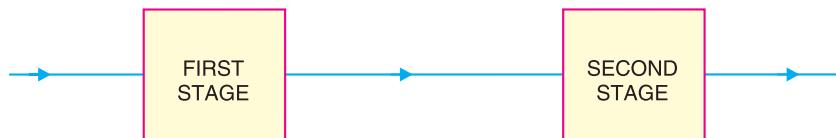

Fig. 13.24
**(i) Current amplification without voltage gain.** We know that an emitter follower is a current amplifier that has no voltage gain ( $A_v \approx 1$ ). There are many instances (especially in digital electronics) where an increase in current is required but no increase in voltage is needed. In such a situation, an emitter follower can be used. For example, consider the two stage amplifier circuit as shown in Fig. 13.24. Suppose this 2-stage amplifier has the desired voltage gain but current gain of this multistage amplifier is insufficient. In that case, we can use an emitter follower to increase the current gain without increasing the voltage gain.